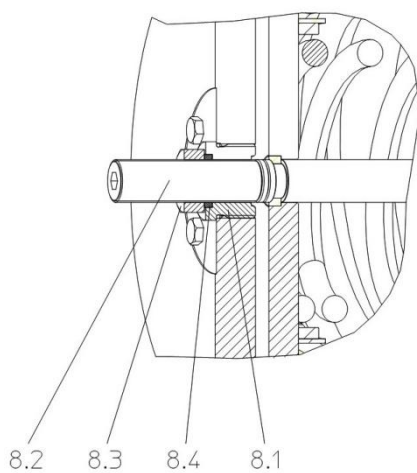

Fig. 8 – Stroke adjustment detail
7.2.2.2 Setting of the stopper on the spring side (Fig. 8)